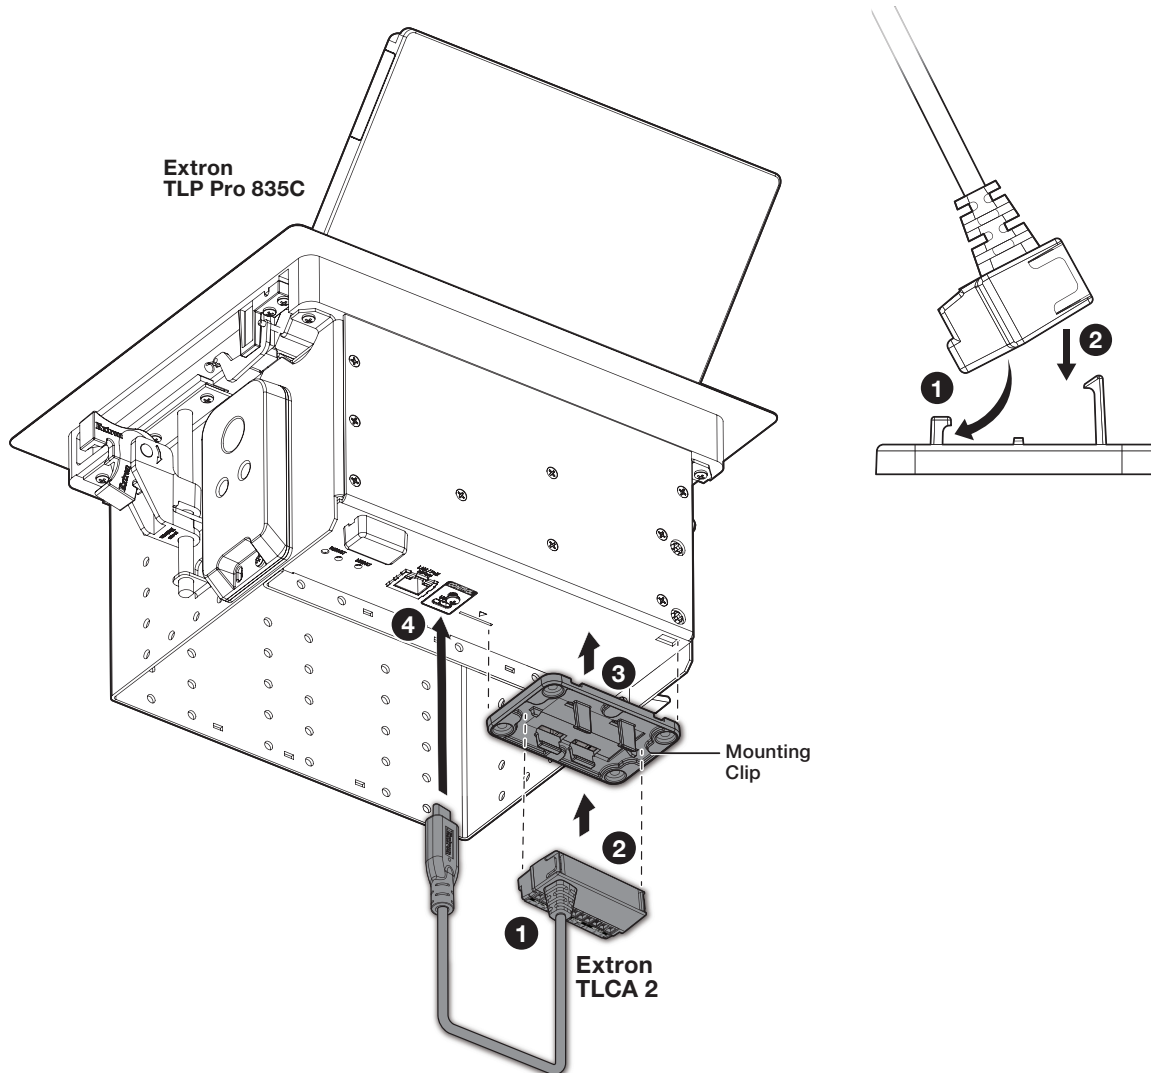

Figure 16. Mounting Under a Cable Cubby
1. Attach the TLCA 2 to the mounting clip (see figure 16, **1** and **2**).
2. Mount the TLCA 2 and mounting clip against the bottom exterior of the Cable Cubby (see figure 16, **3**). The mounting clip is magnetic, and holds secure to the metal frame.